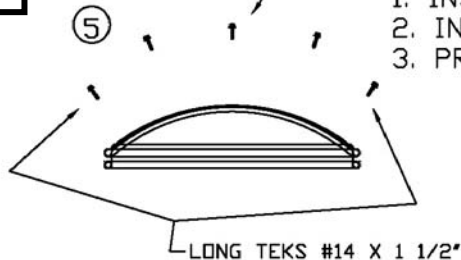

FIG 2
2. See Fig 2 (Page 6). Place the pressure bands with the two rubber bulb seals over the center joints. There can be a short gap at either end. Use the TEKS screws #14 x 1 1/2" (5 per bow) to secure the pressure rib to the roof bow. The TEKS screw is self-drilling and tapping. A 3/8" nut driver with suitable power tool should be used.